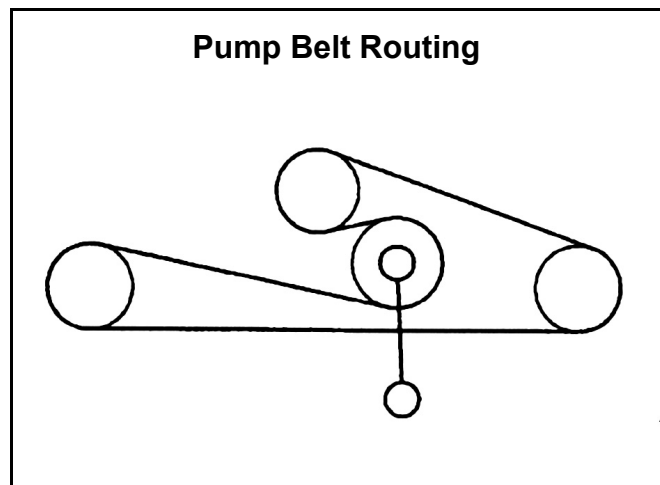

Figure 60
2. Install new belt around engine and hydro pump pulleys (Figure 60).
3. Pull spring loaded idler down and align below traction belt. Release pressure on spring loaded idler (Figure 60).